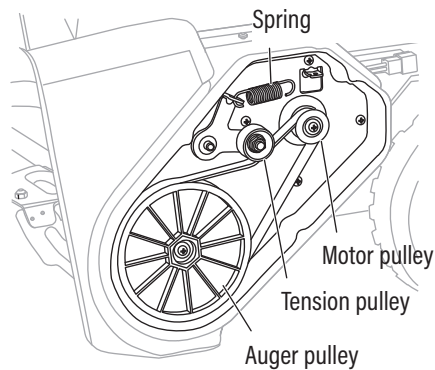

Fig. 14B
2. Remove the spring from the hook to release the belt tension. (Fig. 14B)